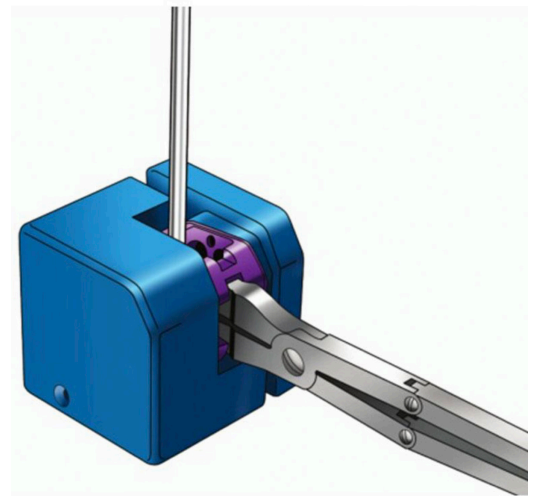

Fig. 5a
- Place the Cage in a bone grafting instrument (compaction box), implant the pre-prepared autologous bone or artificial bone through the anterior or lateral hole of the Cage, and finally compact with the bone grafting instrument (compactor) until the autologous or artificial bone escapes from the hole (Fig. 5a).